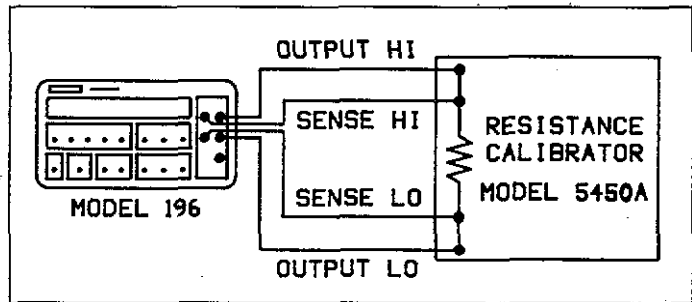

Figure 6-3. Four-Wire Resistance Calibration Configuration (300 Ω -30k Ω Ranges)
2. Connect the resistance calibrator to the instrument as shown in Figure 6-3.